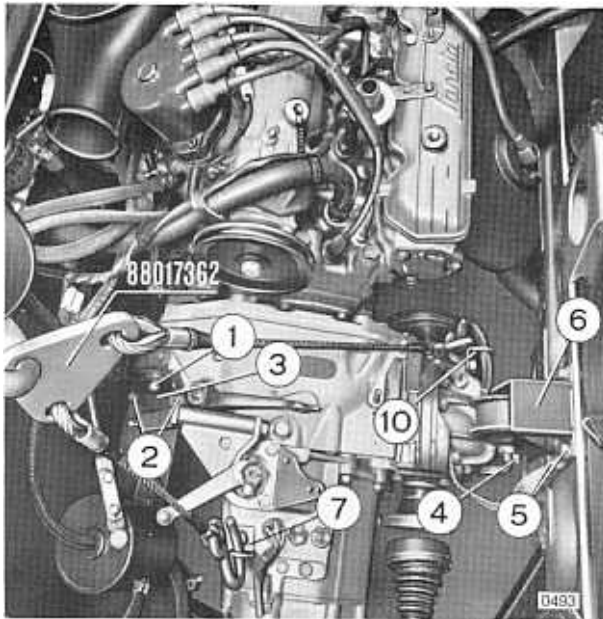

Fig. 03 2/9 - Application of engine lifting hook 88017362
- Set plates (7) and (10) as shown in the photo (see reference numbers (7) and (10) in figs. 03 2/2 & 2/4). Apply hook 88017362 and take up the slack.
- Undo and remove bolt (1), unscrew bolts (2) and take off the mounting (3). Undo bolts (4) and bolts (5). Remove mounting (6).